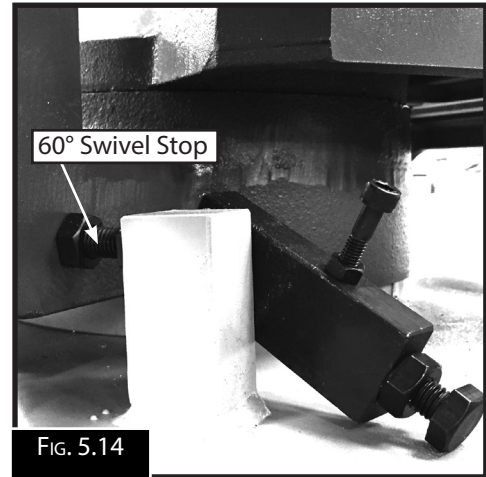

FIG. 5.14
3. Flip the 45° stop over so that the 60° stop is exposed (Fig.5.14)
5. Check that the 60° head stop is hard up against the casting. If there is a gap between the casting (Fig. 5.14) and the stop screw, then loosen the lock nut and adjust the stop bolt until it rests against the casting.